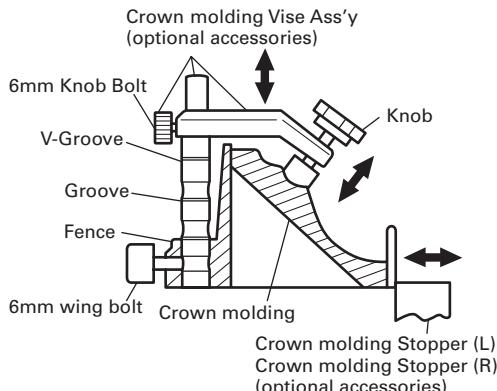

Fig. 46-b
(1) Crown molding Stopper (L) and (R) (optional accessories) allow easier cuts of crown molding without tilting the saw blade. Install them in the base both-sides side to be shown in Fig. 46-a. After inserting Tighten the 6mm knob bolts to secure the crown molding Stoppers.
Then turn the upper knob, as necessary, to securely attach the crown molding in position. To raise or lower the vise assembly, first loosen the 6mm knob bolt. As shown in Fig. 46-b, the vise shaft has three locking grooves into which the tip of the 6mm wing bolt is designed to fit in order to lock the screw holder in the desired position.
After adjusting the height, firmly tighten the 6mm wing bolt; then turn the upper knob, as necessary, to securely attach the the crown molding in position. (see Fig. 46-b)
Position crown molding with its WALL CONTACT EDGE against the guide fence and its CEILING CONTACT EDGE against the crown molding Stoppers as shown in Fig. 46-b.